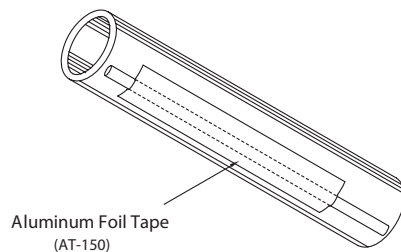

Figure 4
- 2) Aluminum foil tape should only be used if specified by design. The foil is most often used on plastic pipe to offset the insulating effect of the plastic. See the *Serge Baril Heat Tracing Systems Design Guide* for details. See *Figure 4* above.